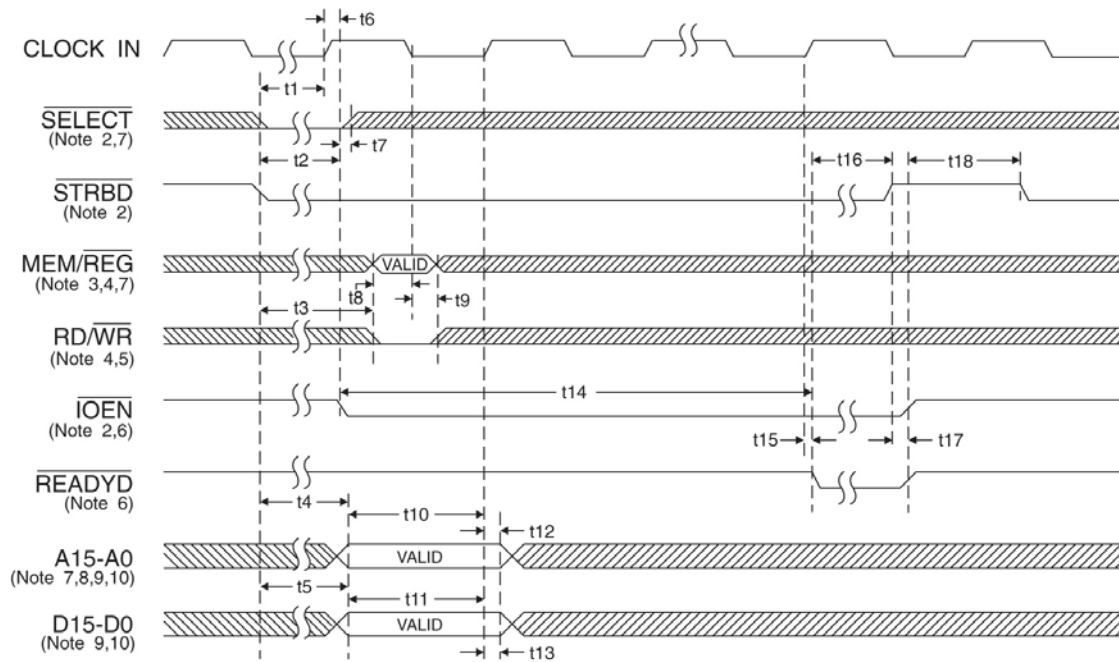

Figure 15. CPU Writing RAM/Register (16-BIT Buffered, Nonzero Wait)
Figure 13 illustrates a generic connection diagram between a 16-bit (or 32-bit) microprocessor and an Total-ACE for the 16-bit buffered configuration, while Figure 14 and Figure 15, and associated tables illustrate the processor read and write timing respectively.
Notes for Figure 15:
**Table for Figure 15 CPU Writing RAM or Registers